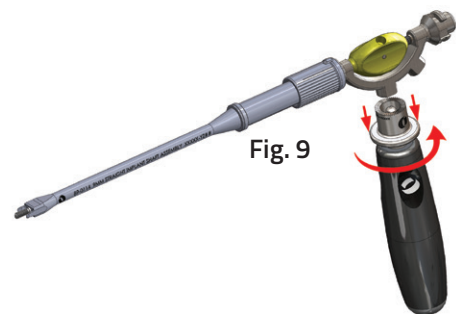

Fig. 9
a) Hold the metal top plunger like a syringe with your fingers on the sides. **(Fig. 9)**